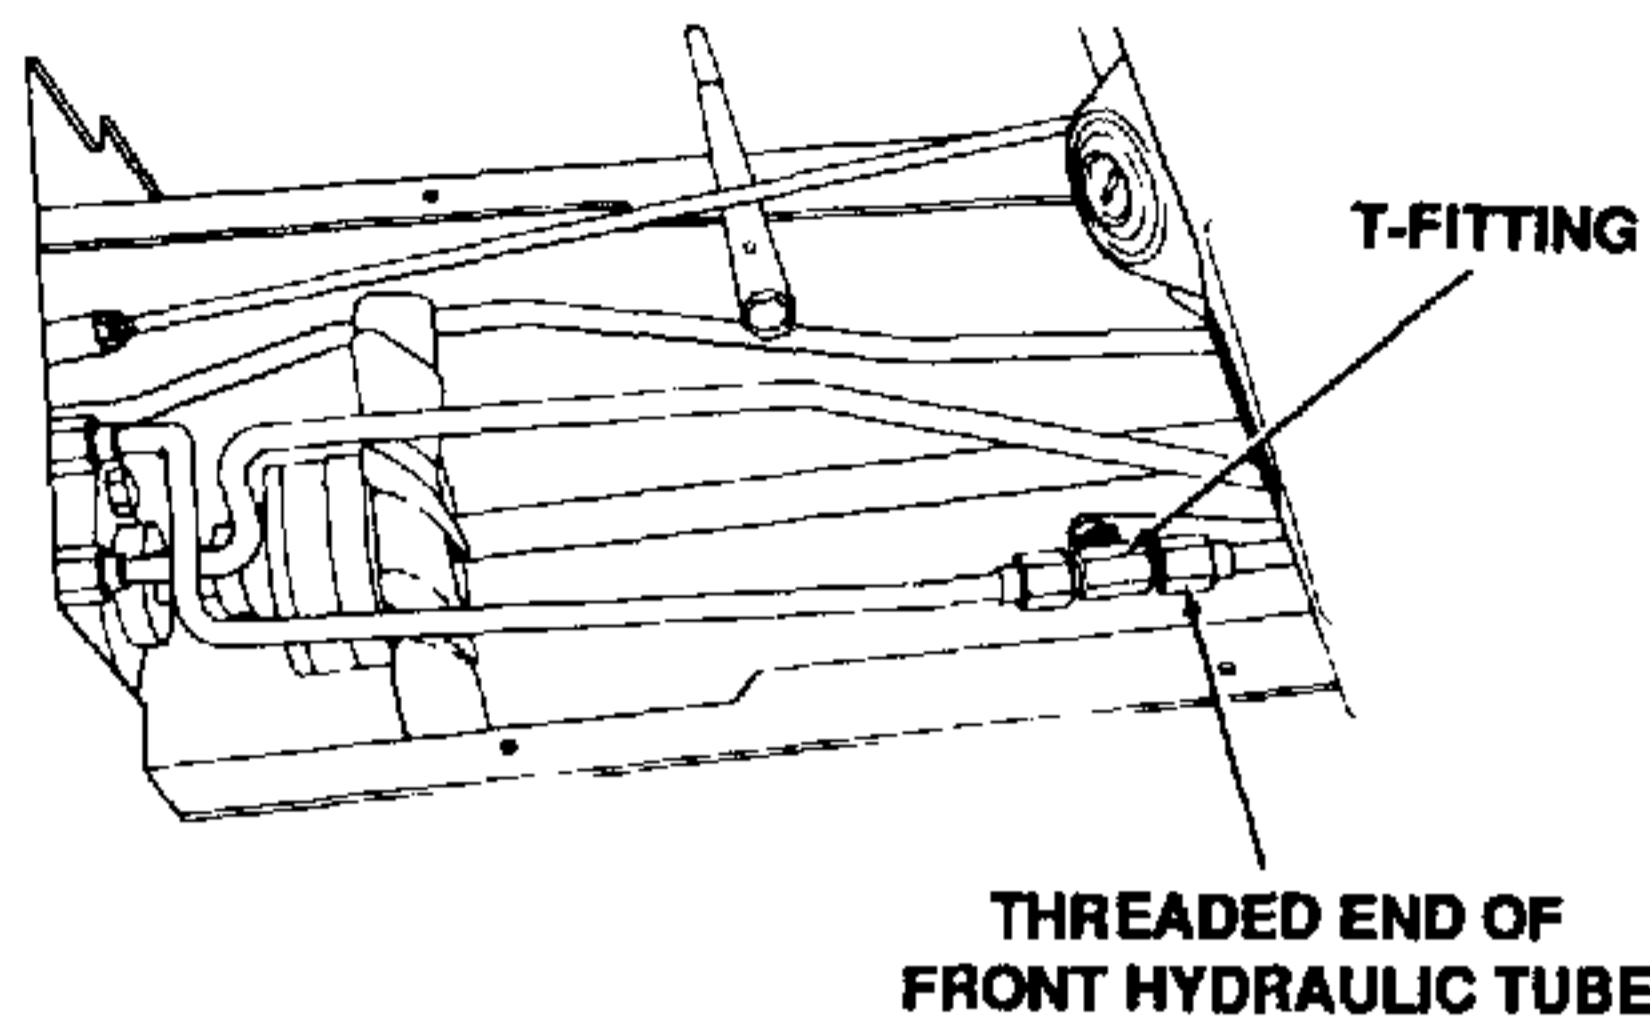

Figure 7-84. Final Installation of Front Outlet Tube (Models 1862, 1782, 1882, 2082 and 2182 Only).
- a. Secure threaded female fitting on the front outlet tube to the T-fitting. Refer to Figure 7-84.